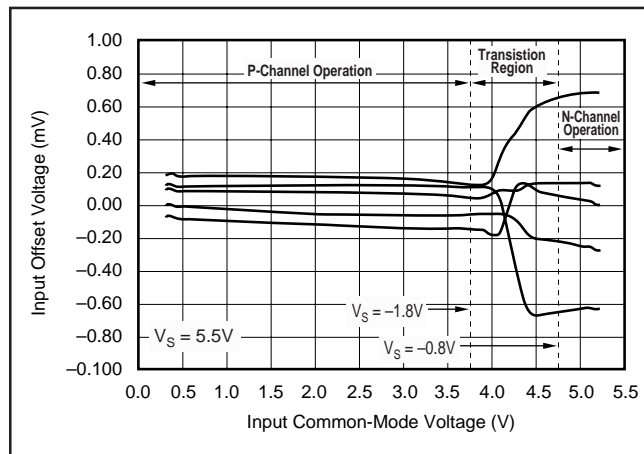
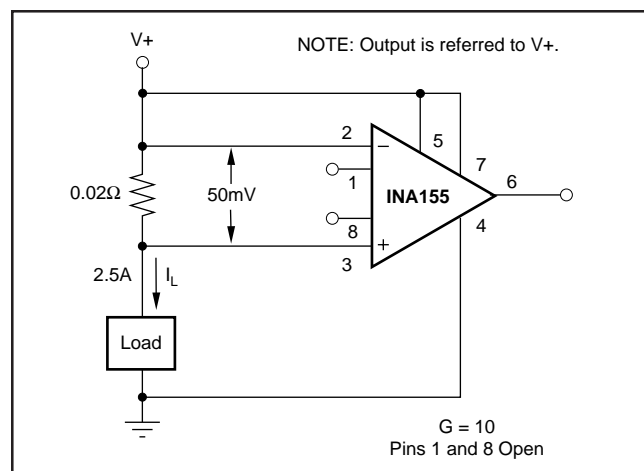

FIGURE 6. Input Offset Voltage Changes with Common-Mode Voltage.
FIGURE 7. Single-Supply, High-Side Current Monitor.
NOTES: (1) For further information, refer to typical performance curves on common-mode input range. (2) Operation beyond $(V+) - 1.8V$ (max) results in reduced common-mode rejection. See discussion and Figure 6 in the text of this data sheet. (3) Does not include error and TCR of additional optional gain-setting resistor in series with R_G , if used.
The internal amplifiers have rail-to-rail input stages, achieved by using complementary n- and p-channel input pairs. The common-mode input voltage determines whether the p-channel or the n-channel input stage is operating. The transition between the input stages is gradual and occurs between $(V+) - 1.8V$ to $(V+) - 0.8V$. Due to these characteristics operating the INA155 with input voltages within the transition region of $(V+) - 1.8V$ to $(V+) - 0.8V$ results in a shift in input offset voltage and reduced common-mode and power supply rejection performance. Typical patterns of the offset voltage change throughout the input common-mode range are illustrated in Figure 6. The INA155 can be operated below or above the transition region with excellent results. Figure 7 demonstrates the use of the INA155 in a single-supply, high-side current monitor. In this application, the INA155 is operated above the transition region.